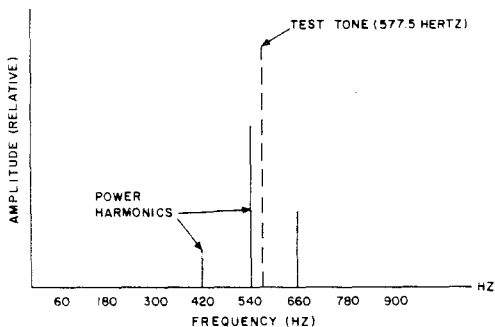

Fig. 2—Signal as Heard With a Filter
3.04 Figure 2 shows the effect that the filter has in rejecting the power components.